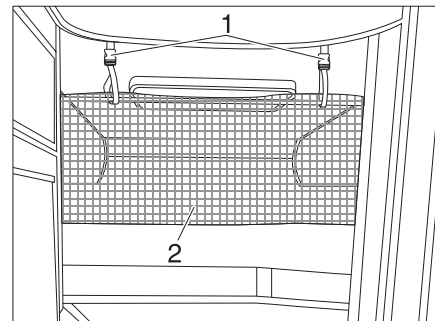

Fig. 171 Safety net
The safety net (Fig. 171, 2) is stored as standard between the mattress and slatted frame. Do not use the safety net until the person is already in bed.
- Fasten the retaining straps (Fig. 171, 1) to the holders on the ceiling.
The safety net (Fig. 171,2) is stored as standard between the mattress and slatted frame. Do not use the safety net until the person is already in bed.
- Fasten the retaining straps (Fig. 171,1) to the holders on the ceiling.